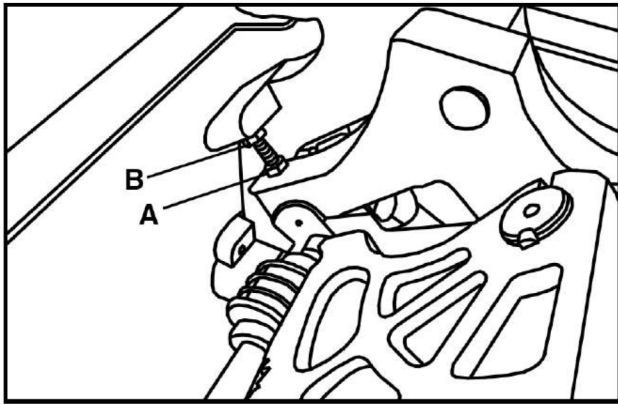

Fig.27: Adjust 45 degrees
5. If the 45 degree positive stop is not set properly, turn the same hand wheel clockwise as far as it will go and follow the same procedure using lock nut (C) As Fig.27 and stop ring (D). The stop bolt (D) should stop against the front trunnion bracket when the blade is at 45 degrees to the table. Recheck and adjust further if necessary. Retighten lock nut (C).